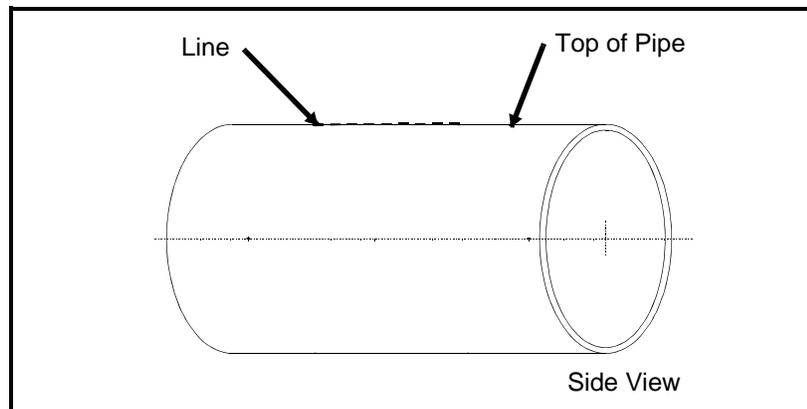

Figure 15: Drawing Line Parallel to Pipe Axis
4. Find the top of the pipe and use a level to draw a line parallel to the pipe's axis, as shown in Figure 15 below.